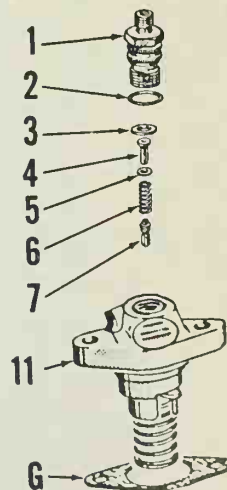
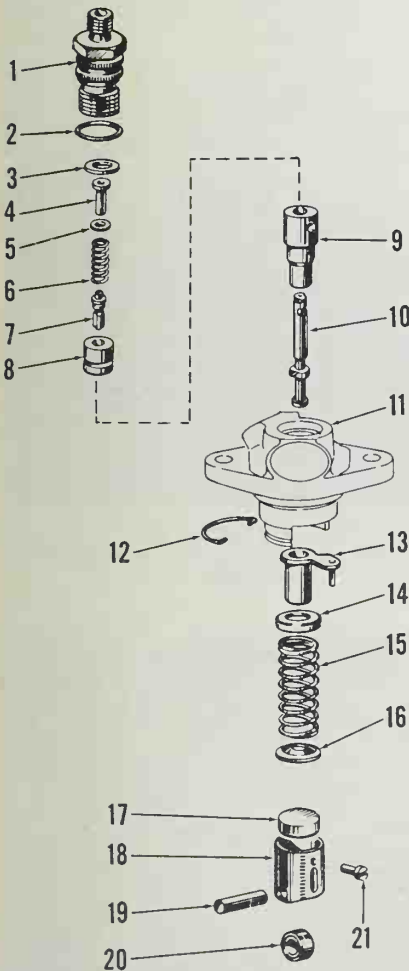

Fig. F1-2—Partial exploded view of fuel injection pump. Injection timing is adjusted using shim gaskets (G).
Fig. F1-6 – Exploded view of fuel injection pump.
Injection pump timing is adjusted using shim gaskets (G-Fig. F1-2) between pump body and mounting surface on crankcase. To check injection timing proceed as follows: Disconnect high pressure line from injection pump, then unscrew delivery valve holder (1) and remove spring (6), shim (5), spring guide (4) and delivery valve (7); do not remove valve seat. Reinstall delivery valve holder (1) and connect a suitable spill pipe to valve holder. Aim spill pipe at a receptacle to catch discharged fuel. Move throttle control to full open position. Rotate engine flywheel slowly in counter-clockwise direction until fuel just stops flowing from spill pipe. Measure distance from reference mark on flywheel housing to top dead center mark on flywheel. Measured distance should be 18 mm if maximum governed rpm is 2000 rpm or less, 21 mm if maximum governed rpm is between 2000 rpm and 3300 rpm, or 27 mm if maximum governed rpm is 3300 rpm or more. Measured distance should be within plus or minus 2 mm of desired distance.
If injection timing is incorrect, remove injection pump and remove or install shims (G-Fig. F1-2) as required. Adding shims will retard injection timing while removing shims advances injection timing. Be sure to reinstall removed pump parts after checking timing.
R&R AND OVERHAUL. To remove fuel injection pump, disconnect fuel lines and immediately cap or plug all openings. Unscrew pump retaining nuts and remove fuel injection pump. Do not lose shim gaskets (G – Fig. F1-2). Pump components (17 through 21 – Fig. F1-6) will remain in crankcase, and timing gear cover must be removed for access.
Refer to Fig. F1-6 for an exploded view of fuel injection pump. The injection pump should be tested and overhauled by a shop qualified in diesel fuel injection pump repair.